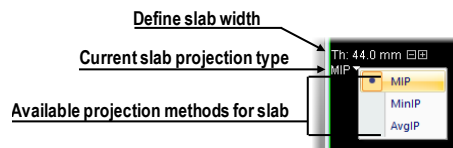

Figure 282 – Controls for defining slab in the current view
4. Select the method for the slab pixel values calculation (see Figure 282).